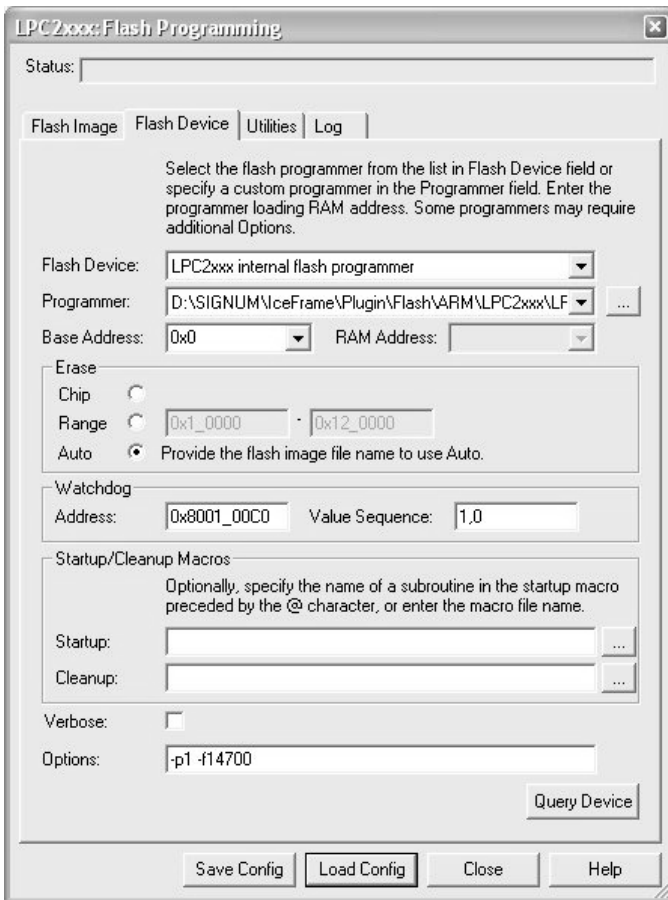

FIGURE 2 Setting up the flash device and its programmer.
1. **Choose the flash device programmer and set its parameters** in the Flash Device tab (Figure 2).